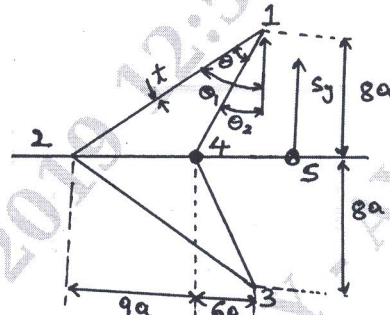

Fig.Q4(b)
b. A thin walled closed section beam has a symmetrical cross-section as shown in Fig.Q4(b). Each wall of section is flat, thickness (t) and shear modulus (G). Calculate the shear center from point 4. (12 Marks)